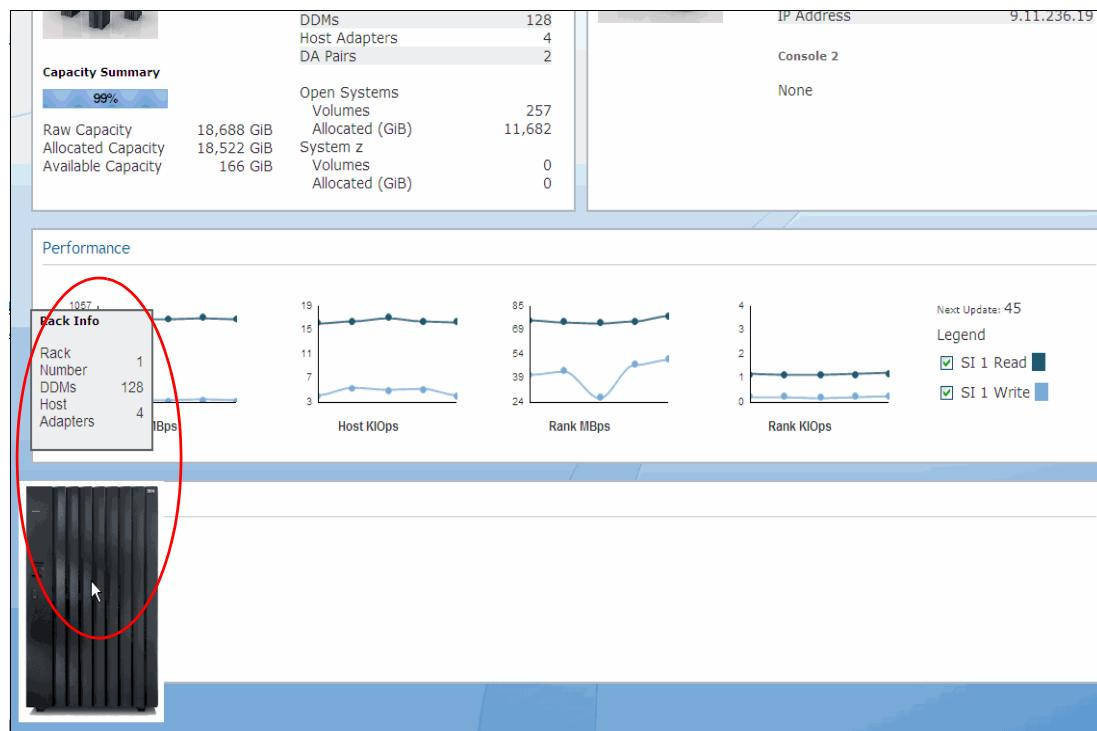

Figure 13-77 System Summary: Rack information
- In the Rack section, the number of racks shown matches the racks physically installed in the storage unit. If you position the mouse pointer over the rack, additional rack information is displayed, such as the rack number, the number of DDMs, and the number of host adapters (see Figure 13-77).